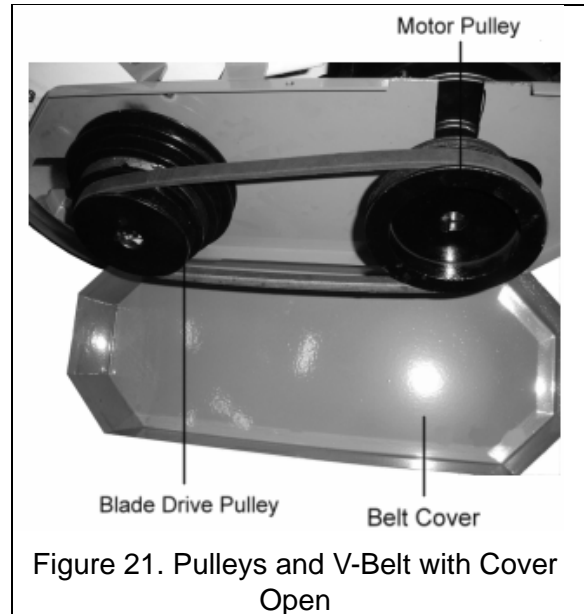

Figure 20. Saw Blade Tension Placard
7. Push the blade so it is seated against the shoulders of the wheels. When it is seated against the shoulder & turn the blade tension handle clockwise to increase the tension. Do not over-tension the blade; tighten it just enough so it does not slip while cutting (refer to placard in **Figure 20**).